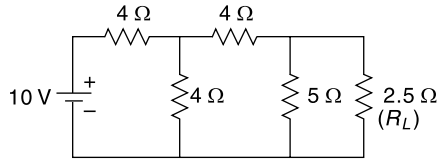

Fig. 4.99 Circuit of Ex. 4.71
4.71 Find the current through R_L in Fig. 4.99 using Norton's theorem.